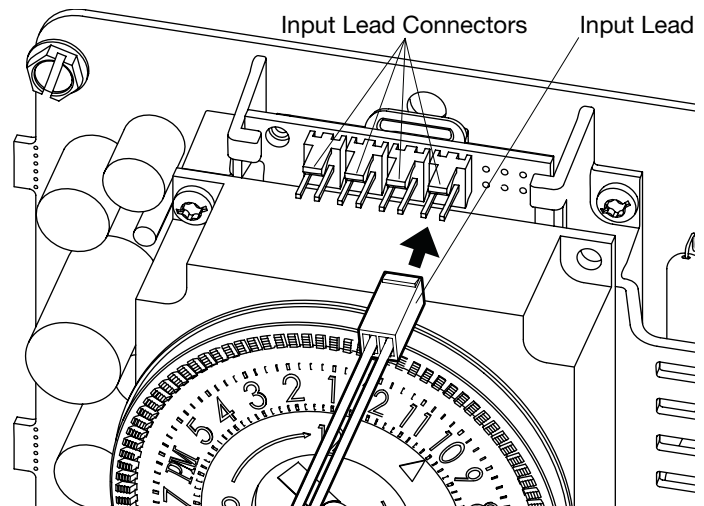

FIG. 6 Attach the Input Lead
2. Connect the input lead to the ICUBE™ module as shown in FIG. 6. The input lead may be inserted into any of the four connectors on the ICUBE™ module.